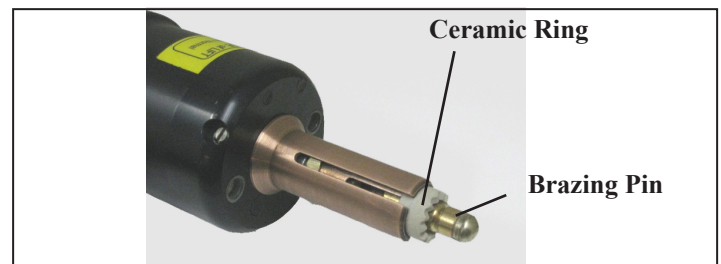

Figure 4. Loading pin and ring
7. Insert the ceramic ring into the ring holder. The serrated edge should be facing away from the gun. See figure 4.